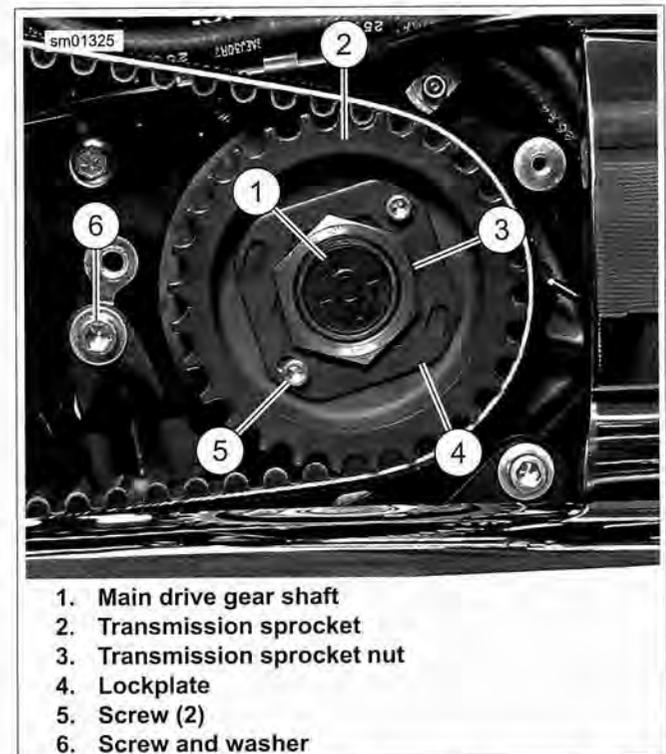

Figure 5-103. Transmission Sprocket Assembly: All Models (XL Model Shown)
5. See Figure 5-103. Remove screw and washer (6) from exhaust interconnect bracket.
- See Figure 5-103. Remove two screws (5) and sprocket lockplate (4).
- See Figure 5-103. Install transmission sprocket (2) onto main drive gear shaft (1).
- d. See Figure 5-103. Install lockplate (4) over nut (3) so that two of lockplate's four drilled holes (diagonally opposite) align with sprocket's (2) two tapped holes.
1. See Figure 5-103. Install screw and washer (6) to secure muffler interconnect bracket to engine crankcase. Tighten to 30-33 ft-lbs (40.7-44.8 Nm).